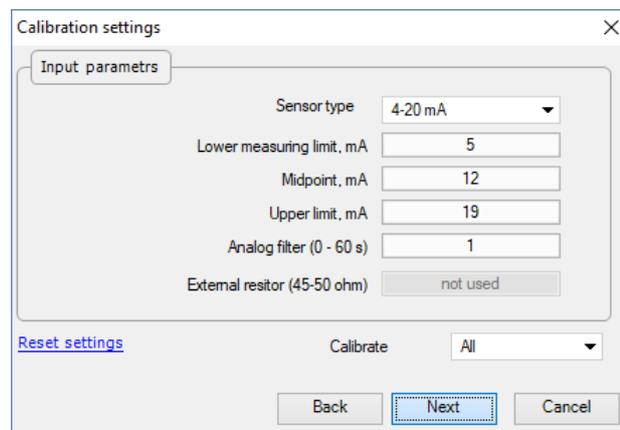

Fig. B.3 Parameter configuration
6. Select the type of input signal and other calibration parameters (Fig. B.3).